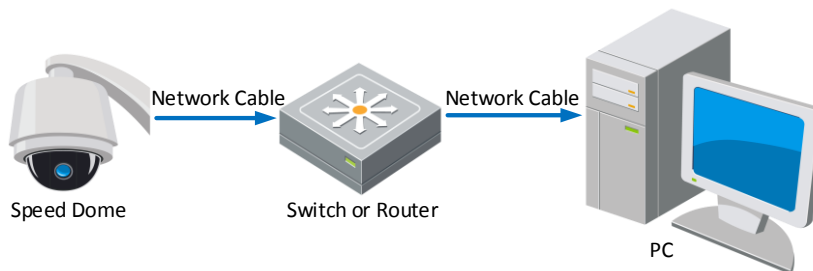

Figure 2-2 Connecting via a Switch or a Router
- Refer to the Figure 2-2 to set the network mini PTZ camera over the LAN via a switch or a router.